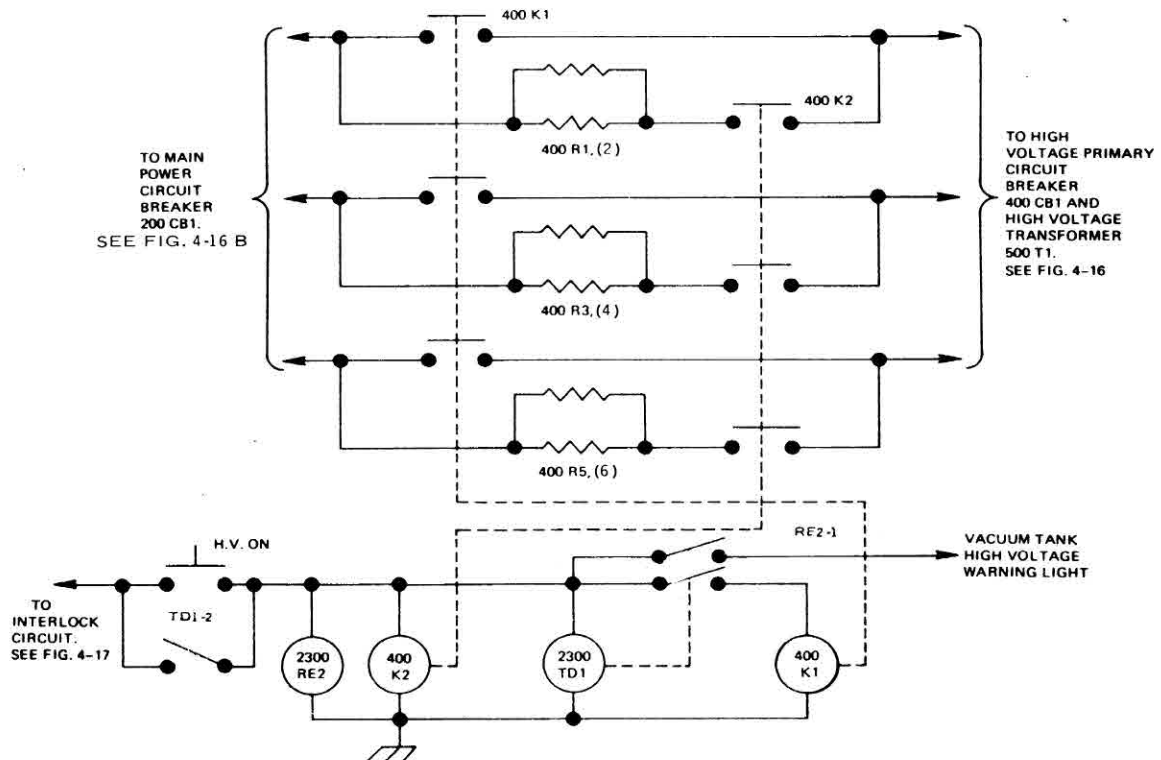

Figure 4-18. CV-14 A and B high voltage step start
4.6.1 High Voltage Step-Start (Figure 4-18)